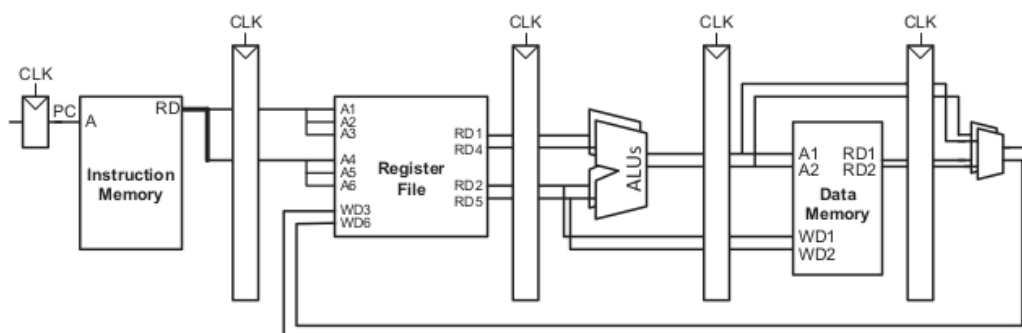

Figure 1. Figure 7.68 from [DDCARV]: Two-way superscalar processor block diagram
Superscalar execution is a microarchitectural technique that improves the performance of a processor. A superscalar processor contains multiple copies of the datapath hardware to execute multiple instructions simultaneously. The latency of executing a single instruction remains unchanged, but the processor can execute and commit more instructions per cycle, thus improving its throughput. Figure 1 shows an example block diagram of a two-way superscalar processor extracted from [DDCARV].
SweRV EH1 is a 2-way superscalar processor similar to the one shown in Figure 1 that can fetch, execute, and commit up to two instructions per cycle. The datapath aligns two instructions at a time that come from instruction memory. The multi-ported register file can read up to four source operands and write two values back in each cycle (plus one more value coming from a non-blocking load, as we analysed in Lab 15). The SweRV EH1 processor contains two Integer Pipes, one Multiply Pipe, one Load-Store Pipe, and one non-pipelined Divider. All these pipes are completely independent, so a pair of independent arithmetic-logic (AL) instructions or any pair of two independent different instructions can be executed simultaneously. However, as discussed in Lab 14, a pair of multiplications, divisions, or load/store instructions cannot be executed in the same cycle, because there is only one of each of these pipes in the processor, and thus two sequential equal non-AL instructions will lead to a structural hazard.